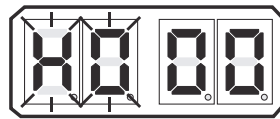

Figure 10-8: Display Troubleshooting Function Blinking
- D Depress and hold the Left and Right Push Buttons simultaneously until the H0 begins to blink. (Figure 10-8: Display Troubleshooting Function Blinking) Release the Push Buttons; the applied battery voltage will now be displayed: